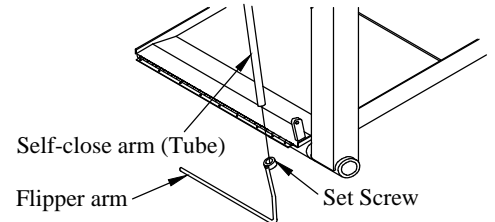

Figure 26: Flipper arm location.
9. **Install** the flipper arm over the self-closing tube (Figure 26).
10. **Tighten** the 1/4" set screw on the flipper arm (Figure 26).